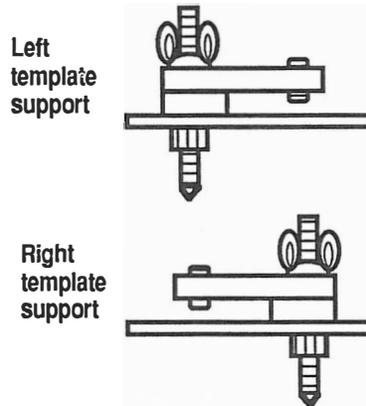

Fig. A-36
**30.** The right and left template support assemblies (1 through 8) come pre-assembled (see Fig. A-36). To attach them to the brackets, remove the cap screws (8) and washers (7) from each assembly.